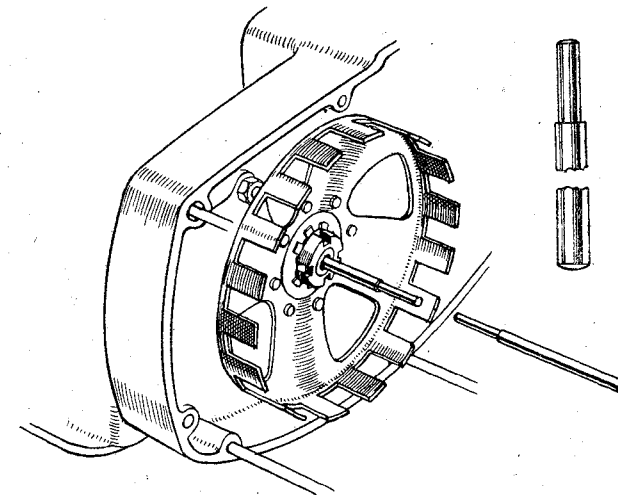
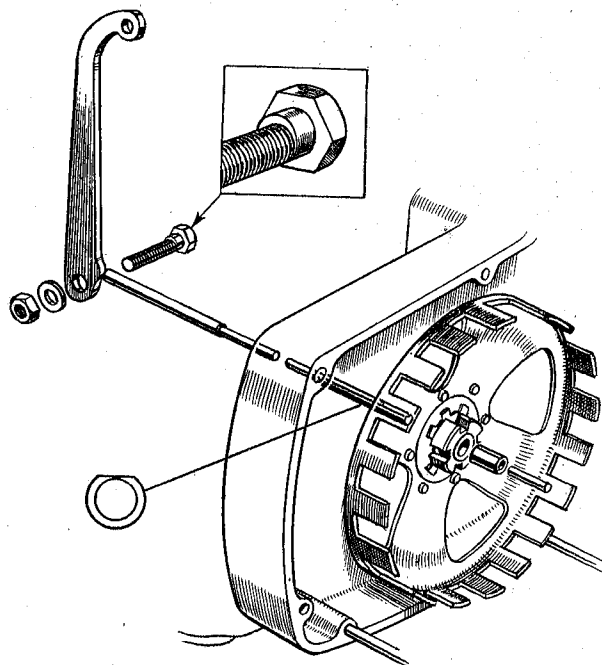

FIG. 8.
FIG. 9.
**NOTE.**—Earlier machines have two  $\frac{1}{4}$ -in. diameter thrust rods only (Fig. 8). Later models have two  $\frac{1}{4}$ -in. rods of unequal length and a short, smaller diameter pin working in a brass bush at the front end of the primary gear shaft. This does not complicate assembly in any way but the illustrations should be referred to for the arrangement (Fig. 9). The longer of the  $\frac{1}{4}$ -in. diameter thrust rods is supplied in different lengths to take up play in the operating mechanism should this be required, and should the eccentric bolt adjustment of the clutch lever be insufficient.
Place the top cover in position, making sure that the selector finger is engaged in the milled slots in the tops of the selector slides and the upper end of the speedometer driven spindle through the bearing in the top cover. Fit the 12 washers and nuts and tighten evenly. Push the two clutch thrust rods into the bore of the primary shaft, together with the thrust pin at the front end and fit the clutch lever. (See Note Page 13 and Figs. 8 and 9).
Any wear on the thrust operating mechanism may be taken up by adjusting the eccentric pin securing the lever to the gearbox. This adjustment may also need alteration if new thrust rods are fitted. (See Fig. 9).